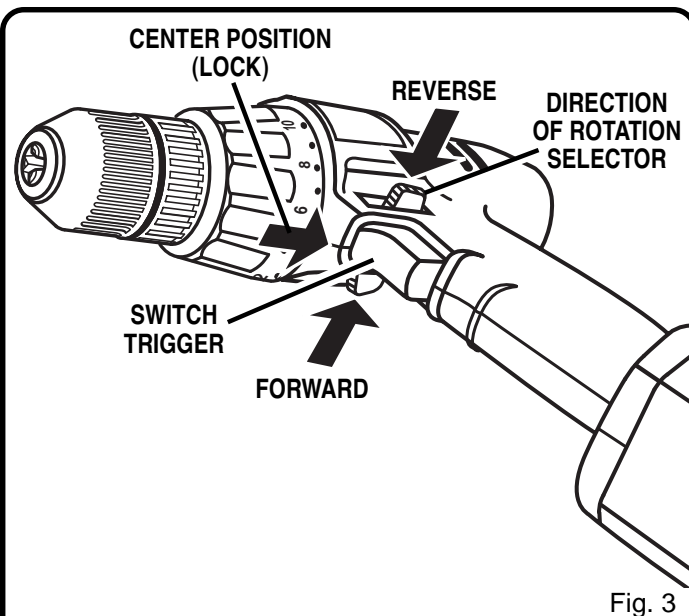

Fig. 3
See Figure 3.
- Place the direction of rotation selector in center position. See Figure 3.